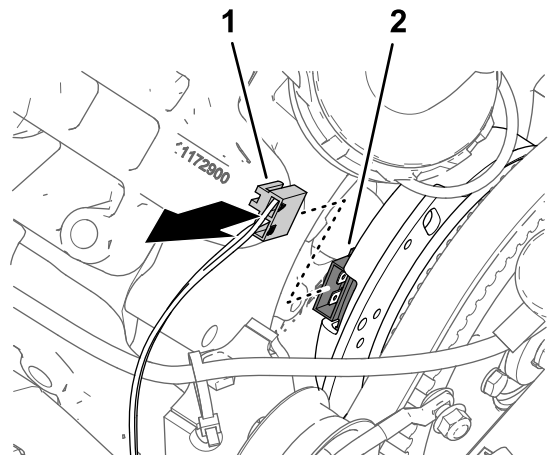

Figure 207
1. Disconnect the 2-socket connector of the machine wire harness labeled SPRAY PUMP COIL from the 2-pin connector of the pump clutch (Figure 207).